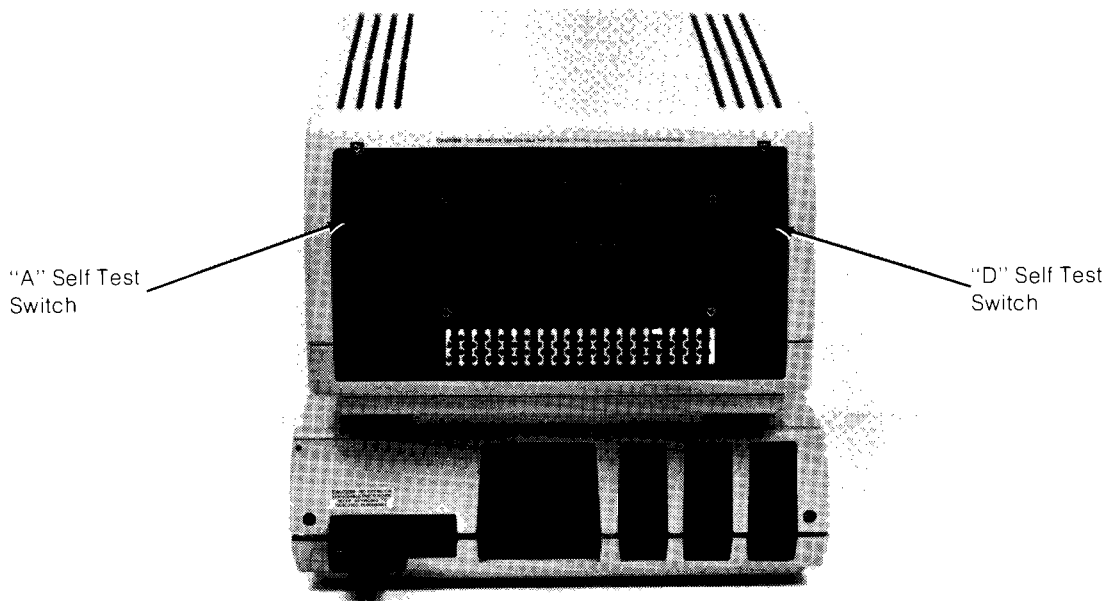

Figure 2-10. CRT Self Test Switches
The CRT self test switches can help you quickly isolate a problem to either the CRT assembly or the mainframe assembly. The switches are accessed from the CRT rear panel (see Figure 2-10).
- Press the A self test switch on the A73 assembly, shown in Figure 2-10, to display the raster in inverse video.